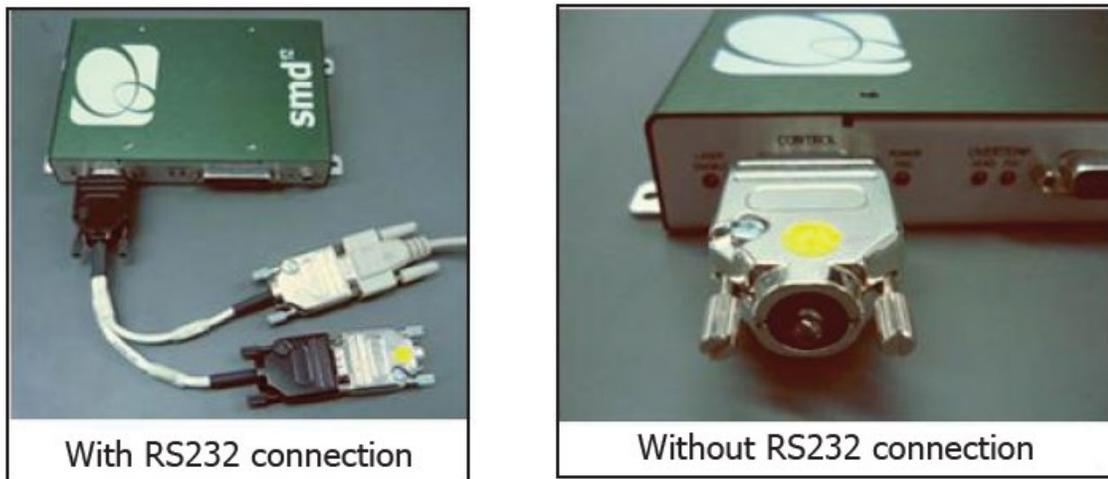

Figure 4-2
- 4 The analogue Control port (see Figure 4-2) is multi-functional as it has connections for Interlock, Enable Switch and Laser Power Control/Modulation. The Interlock must be closed to allow the laser to operate and this can be achieved using the supplied green-spot Interlock Dongle.
### Using the Control port without the Break Out Cable (see Fig 4.2)